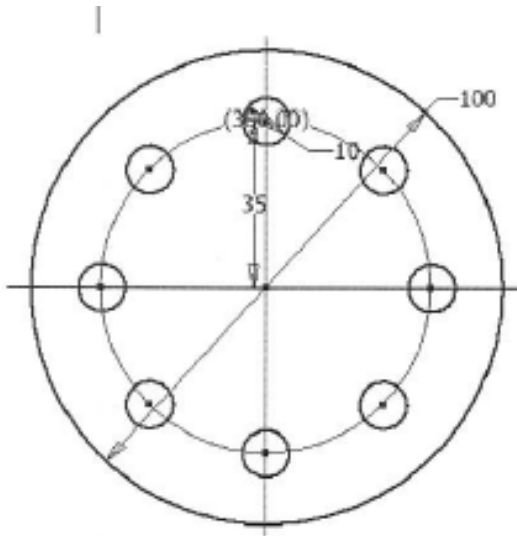

Figure 1.8
- In this Hands-On, you will pattern the circular sketches as shown in Figure 1.8